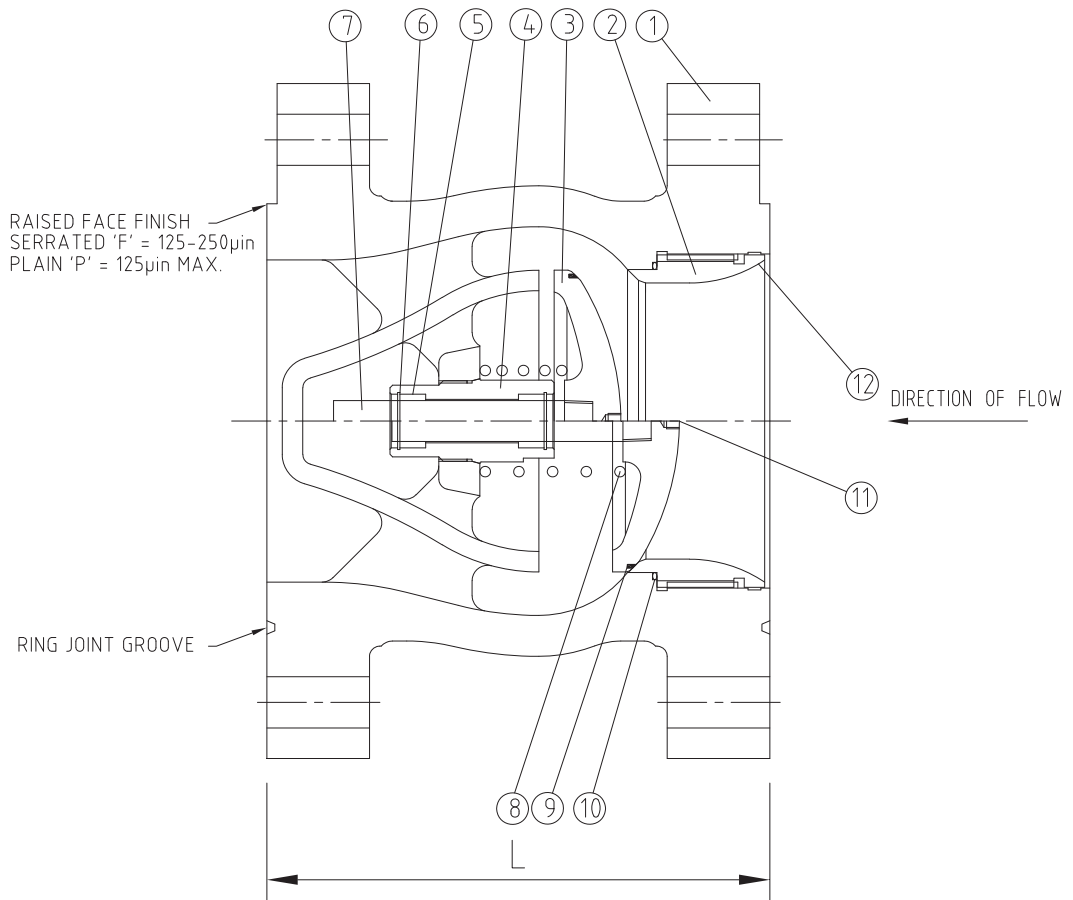

FIGURE 1
Spares: Spring Energized Seal–(10)–(See figure 1)
5.3 VALVE DIS-ASSEMBLY (TYPICAL) – SEE FIGURE 1
2. Item 11 Back up ring is only required for standard design valves, PN100 and above. (See figure 1)